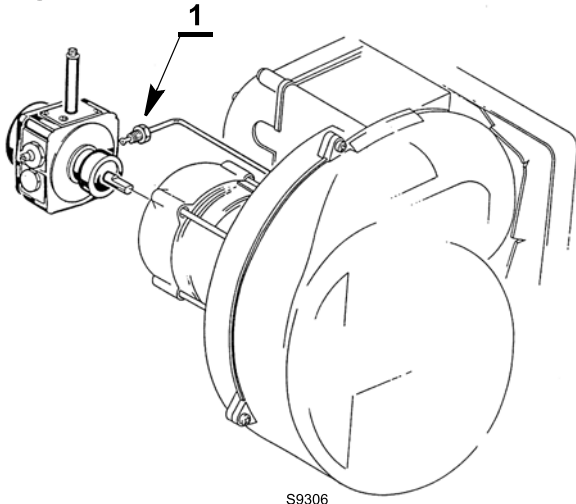

Fig. 7
- Tighten the coupling 1) (Fig. 7) with a tightening torque of  $15 \text{ Nm} \pm 1 \text{ Nm}$ .